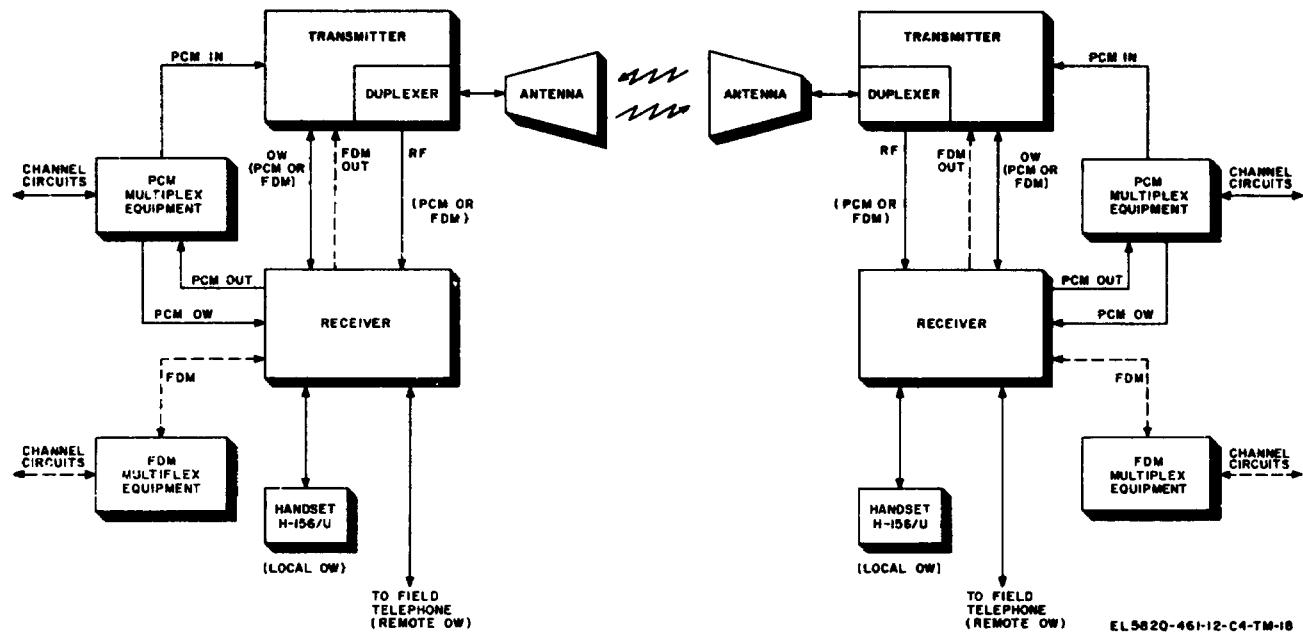

Figure 1-15. System Application using two terminals
The radio set is designed specifically for system use and generally is not used without supporting multiplex equipment. When the radio set is used in a communications system where the radio link exceeds 30 miles (approximately 50 kilometers), a repeater station is required at each 30-mile interval. In addition to multiplex equipment, each repeater station is equipped with two complete radio sets, to allow simultaneous transmission and reception in two directions. As many as seven repeater stations may be used in a system. The signal paths for various configurations are covered in paragraphs 1-16 and 1-17. Throughout this discussion and accompanying illustrations (figs. 1-15 and 6-1), the equipment that comprises the transmitting portion of the radio set (T-8993(P)/GRC, PP-2054(*)/GRC, and the AM-1957/GRC or AM-1958(*)/GRC) is referred to as the transmitter; the combination of the R-1148(P)/GRC or R-1331(*)/GRC and the AM-1955(*)/GRC or AM-1956(*)/GRC is referred to as the receiver.
1-16. Two-Terminal System (fig. 1-15)
a. *General.* Multiplex intelligence can be transmitted direct from one radio set terminal station to another at distances up to 30 miles (50 kilometers, approximately). The signal paths through this type of system are shown in figure 1-15 and are covered in b through d below.
- (1) Multiplex signals (FDM) from fdm equipment are fed through the receiver to the transmitter (FDM OUT).
- (2) The RF carrier of the transmitter, frequency-modulated by the multiplex signals, is coupled through the duplexer to the antenna for propagation towards the distant station.
(3) The signals received by the antenna at the distant station are fed through a duplexer in the transmitter to the receiver (RF). From the receiver, the signals (FDM) are routed to the fdm equipment.